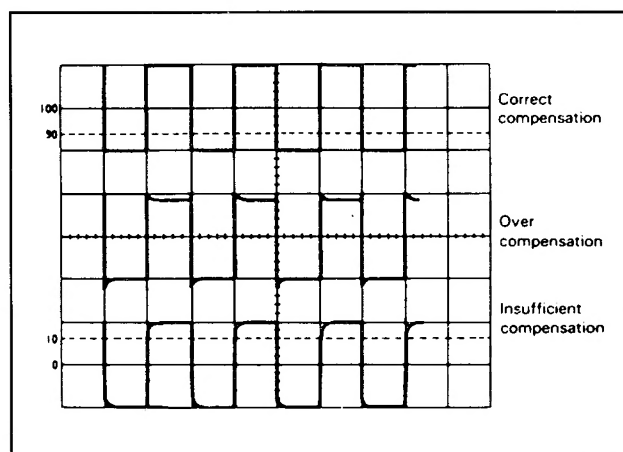

Fig. 5. Probe Compensation Adjustment.
4. Adjust compensation trimmer on probe for optimum square wave (minimum overshoot, rounding off, and tilt). Refer to Fig. 5.